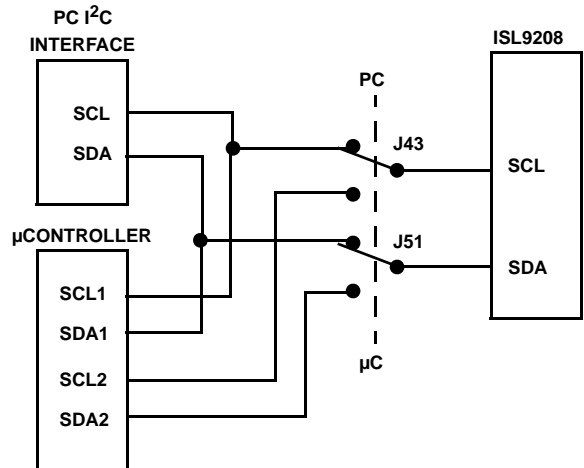

FIGURE 7. I2C JUMPERS: PC or μC CONNECTION TO THE ISL9208
- For this test, make sure the SCL and SDA jumpers are set to the PC position. In this case, the PC has full control of the board and the microcontroller function is disabled (see Figure 7). Except for the ISL9208 automatic response to overcurrent and over temperature, all other actions of the board are manual and controlled through the GUI.